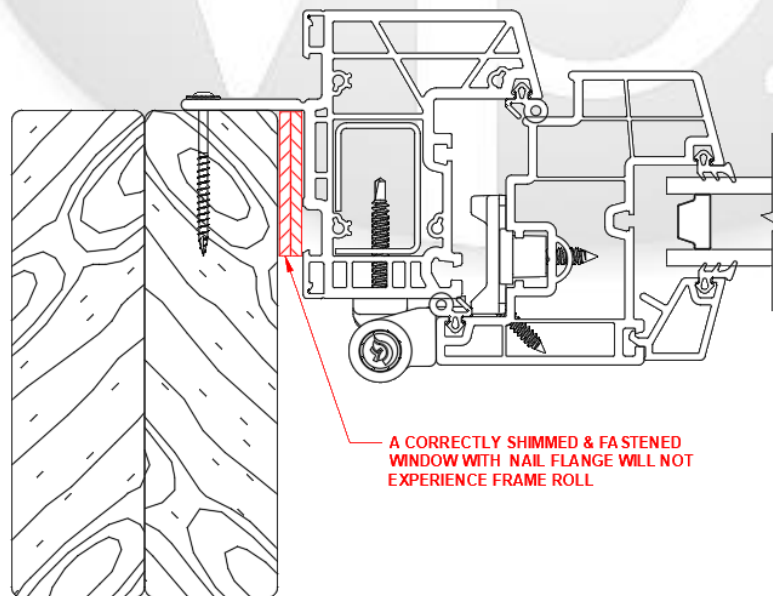

Figure 8: Example Correctly Shimmed & Fastened Window Nail Flange
- V. Correctly shimmed and fastened windows with nail flange will not experience frame roll and gasket over-compression. (See Figure 8)